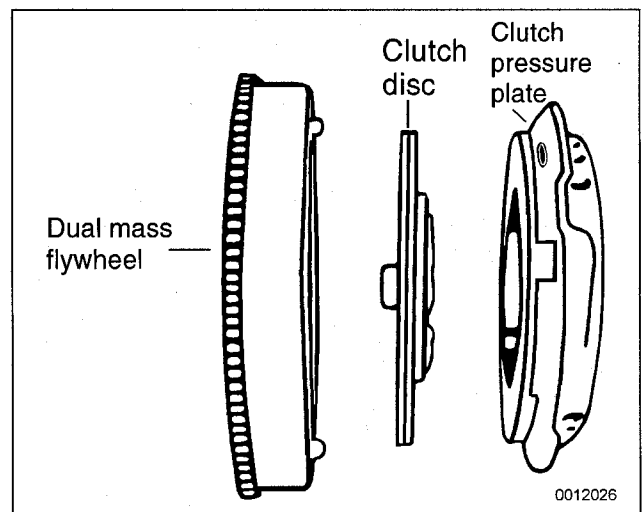

Fig. 10. Clutch assembly. Note clutch disc hub position during installation.
*Be sure clutch disc is facing the correct way. The new disc should be marked **engine side** or **transmission side**. See Fig. 10.*